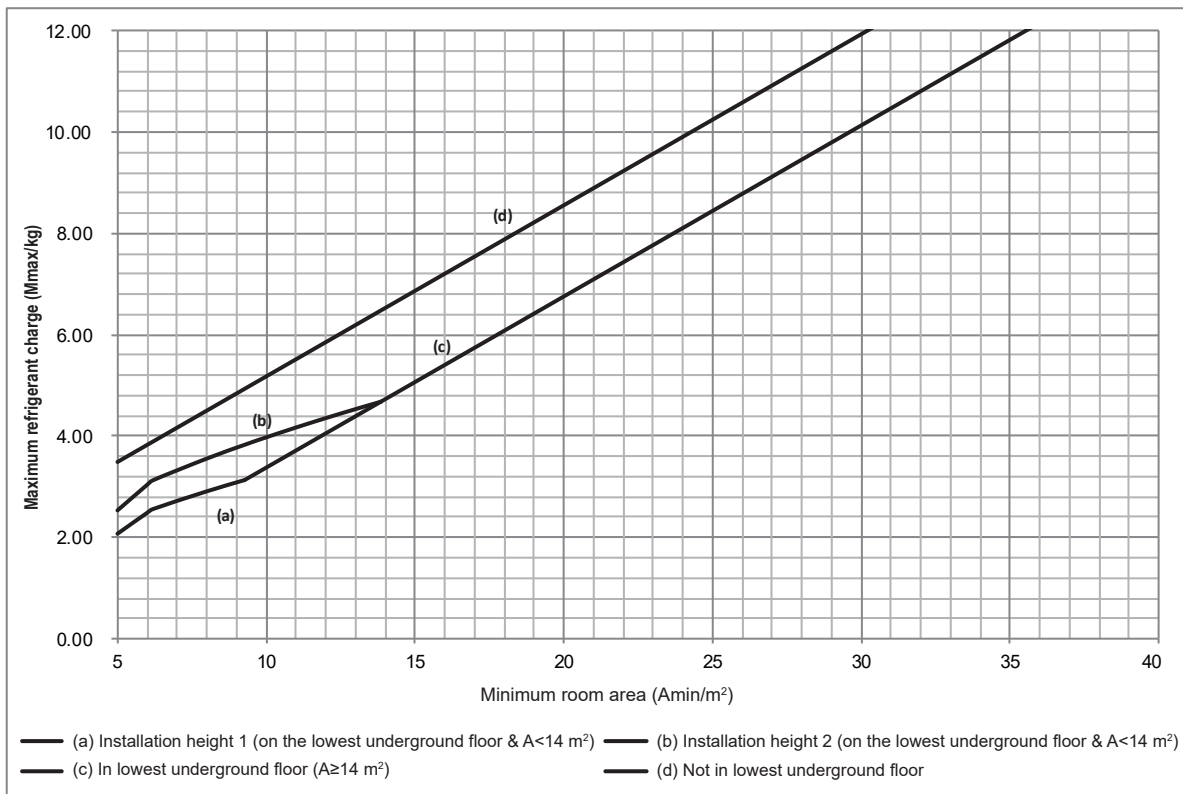
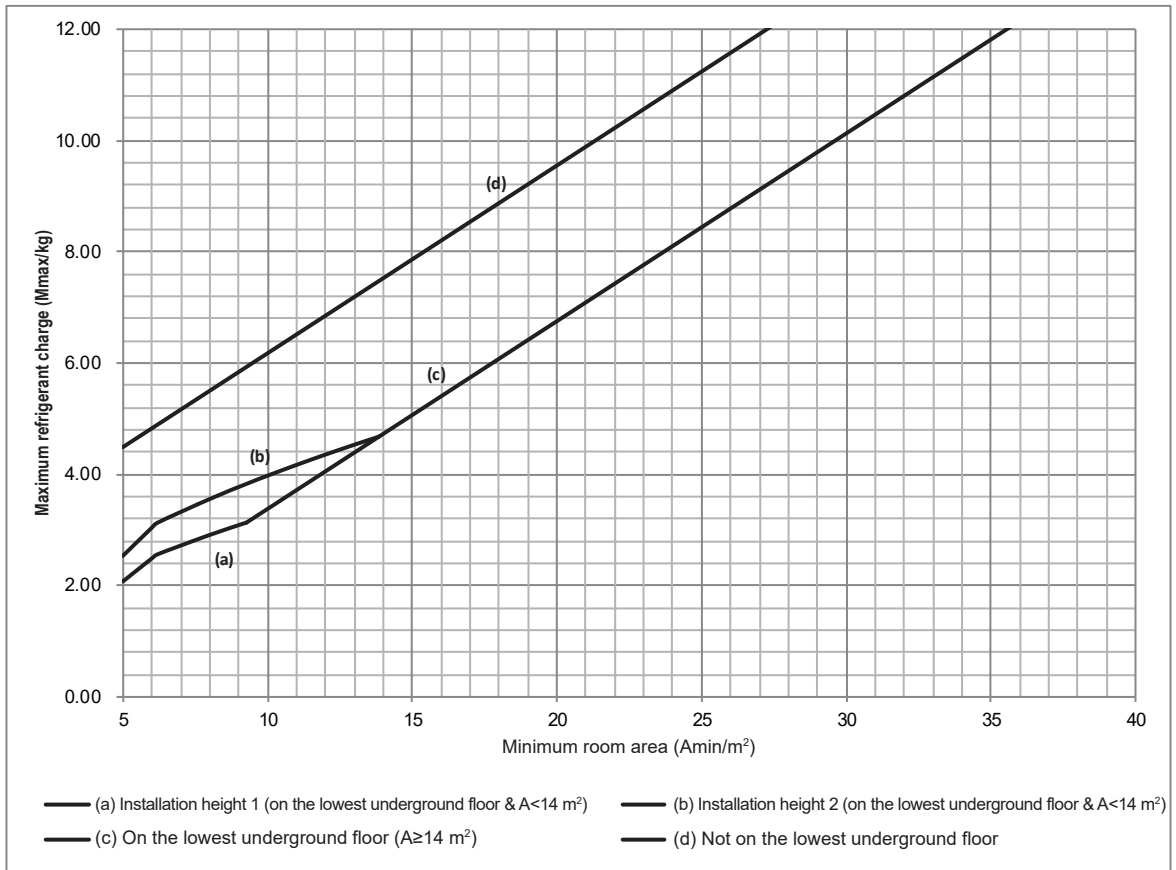

Figure 1-4
Figure 1-5
If the system is equipped with a factory refrigerant shut-off device on the outdoor unit main pipe and an alarm device connected to the indoor unit, further rules regarding refrigerant charge and room area can be followed. Figure 1-4 and Table 1-4 is suitable for 8-10 kW and Figure 1-5 and Table 1-5 is suitable for 18kW.
- If the system applies to case (d) in Figure 1-4 and Table 1-4 or Figure 1-5 and Table 1-5, the minimum room area for a 8-10 kW outdoor unit must not be less than 7 m² and the minimum room area for a 18 kW outdoor unit must not be less than 10 m².